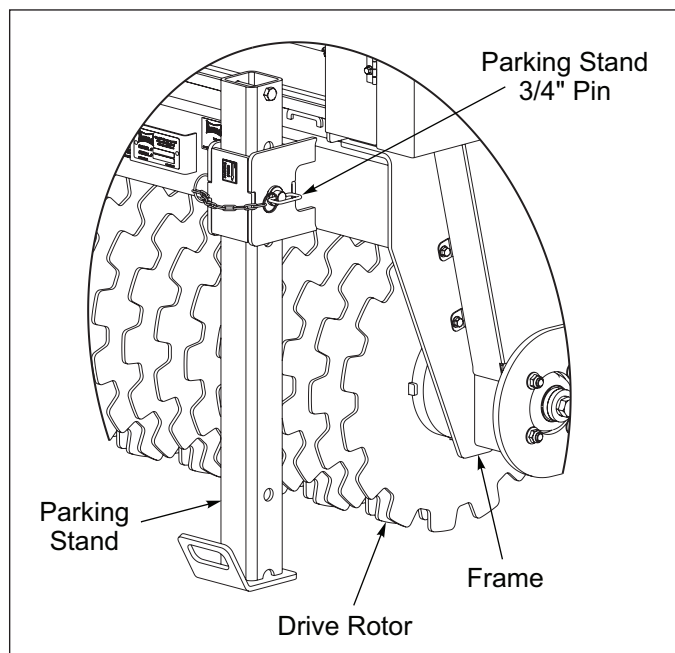

Figure 3-2: Parking Stand
9. Raise the Till 'N Seed. Remove Rear Roller Locking Pins from both sides and place them in the Toolbox. Raise Parking Stands, both sides. **See Figures 3-2 and 3-3.** Adjust or lock tractor sway stabilizers if equipped, centering the Seeder with the Tractor. **Refer to the Tractor Operator's Manual.**
2. Raise Parking Stands by removing each Parking Stand 3/4" Pin and lifting the Parking Stand until the bottom hole is aligned with the bracket hole. Replace the 3/4" Pin. **See Figure 3-2.**
1. Raise the Till 'N Seed. Lower Parking Stands by removing each Parking Stand 3/4" Pin and lowering the Parking Stand. Align one of the three holes with the bracket hole depending upon the site ground, replace the 3/4" Pin. **See Figure 3-2.**